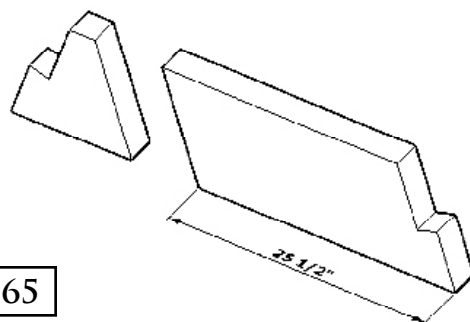

FIGURE 65
**Step 19:** Cut each of the two smoke dome top medium pieces, part 11 at an angle cut that is parallel to the un-cut end and so that its bottom length is 25 1/2" (Figure 65).